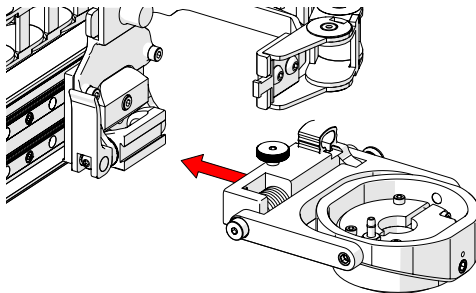

Fig. 138 - Attached to dovetail jaw
4. Align the dovetail jaw of the corrosion thickness probe holder (*Fig. 138*) and the pivot mount of the raster arm.